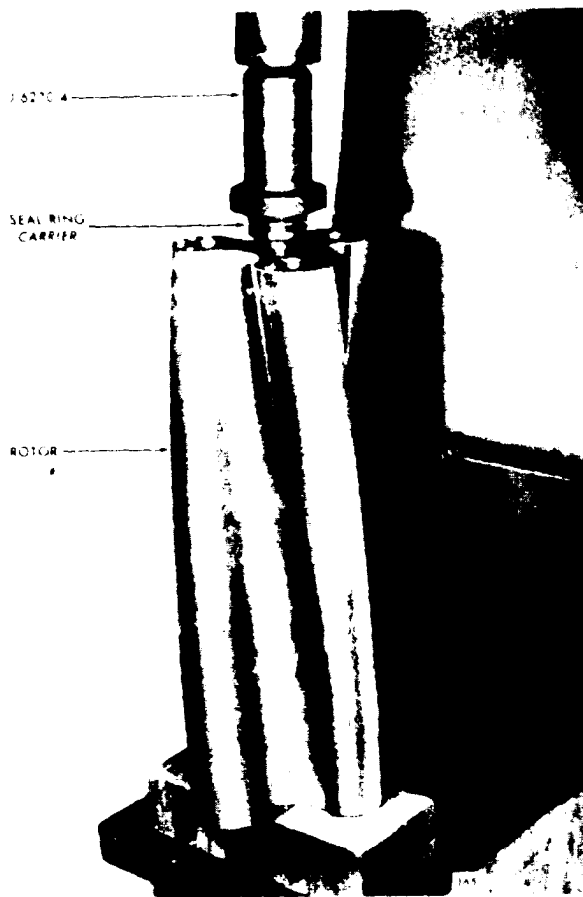

Figure 11D-14. Installing Oil Seal Ring Carrier on Blower Rotor
- G. Place the oil seal ring collar installer J 6270-4 on top of the seal ring collar and under the ram of the press in the same manner as shown in Figure 11D-13 on page 11D-9. Then press the collar into the end plate until the shoulder on the installer contacts the end plate.